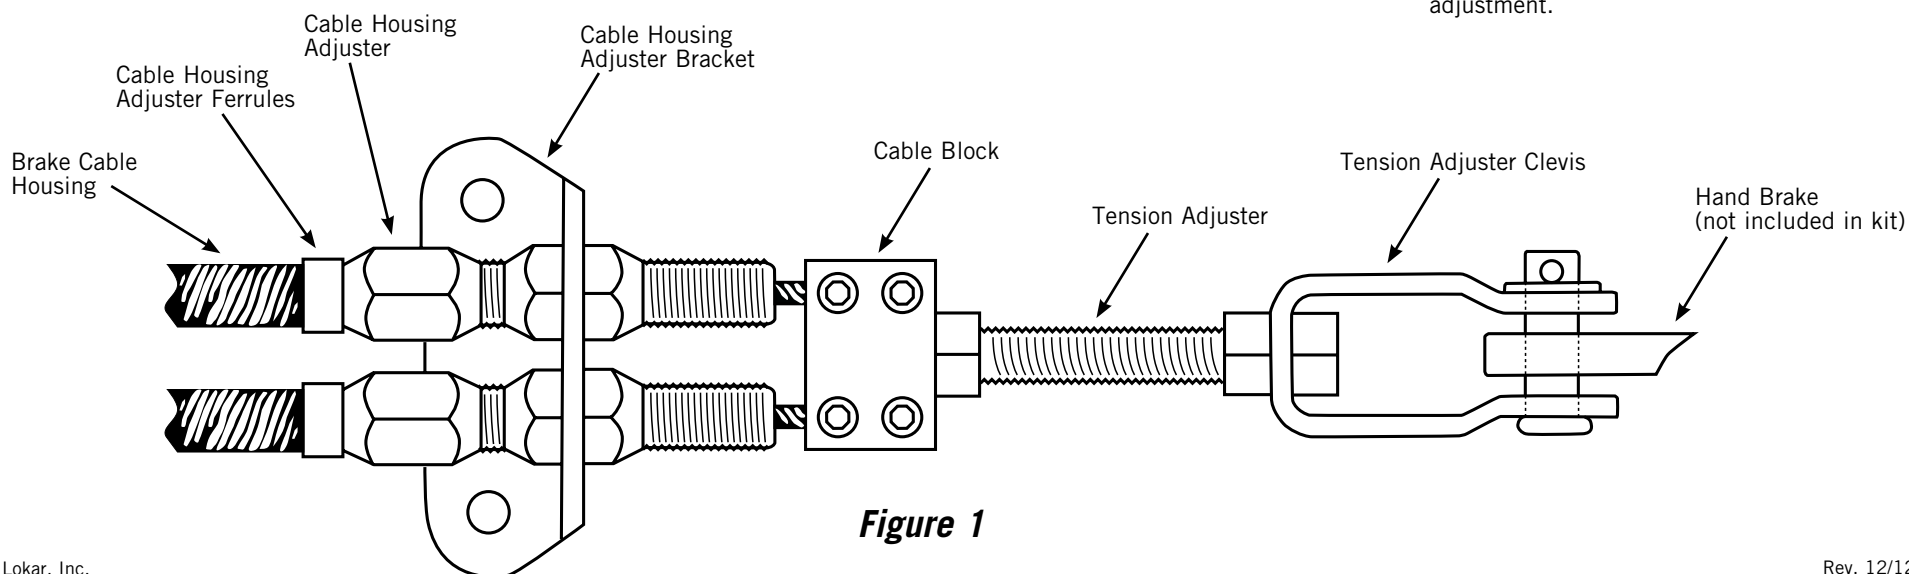

Figure 1
**Step 2:** Install the cable adjuster bracket on a surface that will allow the cables to be pulled straight (from the adjusters to the cable junction block and hand brake clevis - the distance between the adjusters and the cable junction block can be positioned where desired). **See Figure 1.**
**Step 5:** Feed springs onto inner wire and install from backing plates. Set adjuster about three-quarters of the way in and feed inner cable to cable junction block and set setscrews. **See Figure 1.**